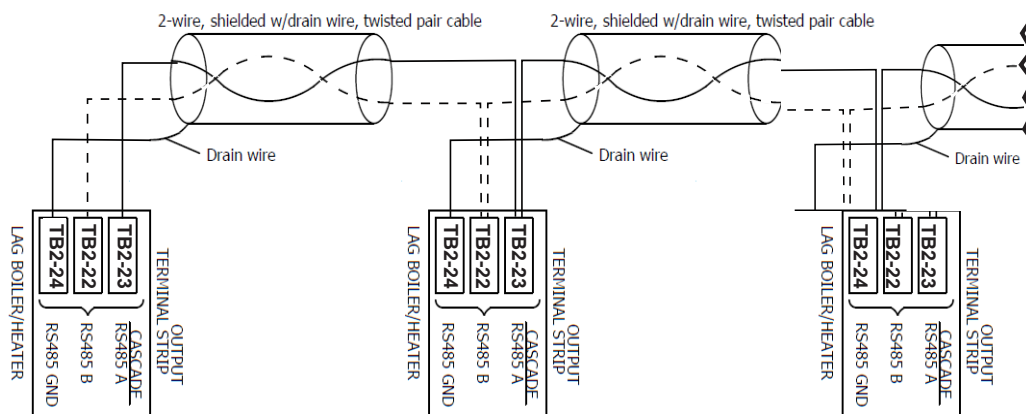

Figure 6. Cascade Wiring Connections
Communication between lead and lag units is accomplished using RS485. When wiring Copper Brute II units for cascade operations, use terminals 22 (B), 23 (A), and 24 (GND) of the output terminal strip. Use 2-wire twisted pair, shielded w/drain, communication cable between units. Referring to Figure 6, connect one end of the twisted pair wires to A (terminal 23), and the other to terminal B (terminal 22), and the drain wire to GND (terminal 24). Connect the other end of the cable to the next Copper Brute II, matching the termination wiring on the previous unit, except for GND. Only connect the drain wire to ground on one end of the cable to avoid ground loop issues. If more than two Copper Brute II units are cascaded together, daisy chain the wiring from Copper Brute II to Copper Brute II, keeping the cables as short as possible.